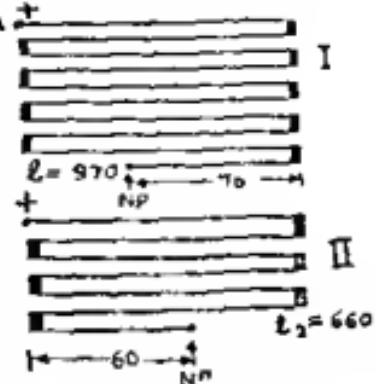

Fig. 17.2
*Note—Distances of null points are to be measured always from the end A, i.e., where positive pole of the battery and positive electrodes of the cells are all connected. Note these distances very carefully. The students usually read 970 as 930 and 660 as 640 (See the figure 17-2).*